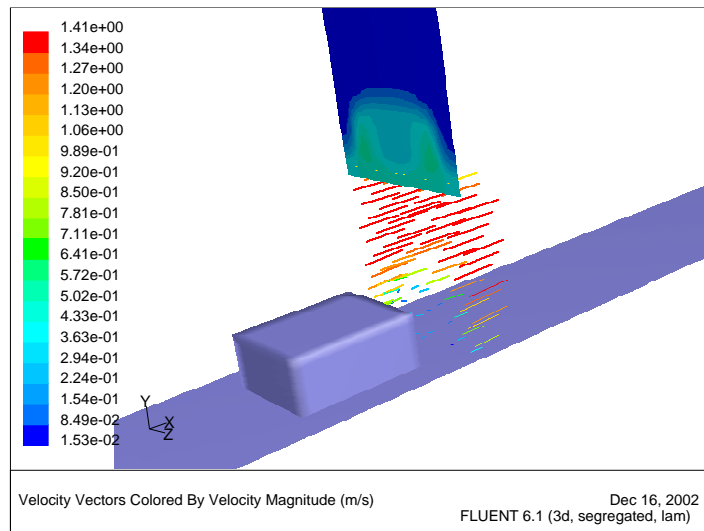

Figure 22.18: Exploded Scene Display of Temperature and Velocity
5. Create the exploded view (Figure 22.18) by translating the contour display, placing it above the vectors.
The exploded view allows you to see the contours and vectors as distinct displays in the final scene (Figure 22.18).